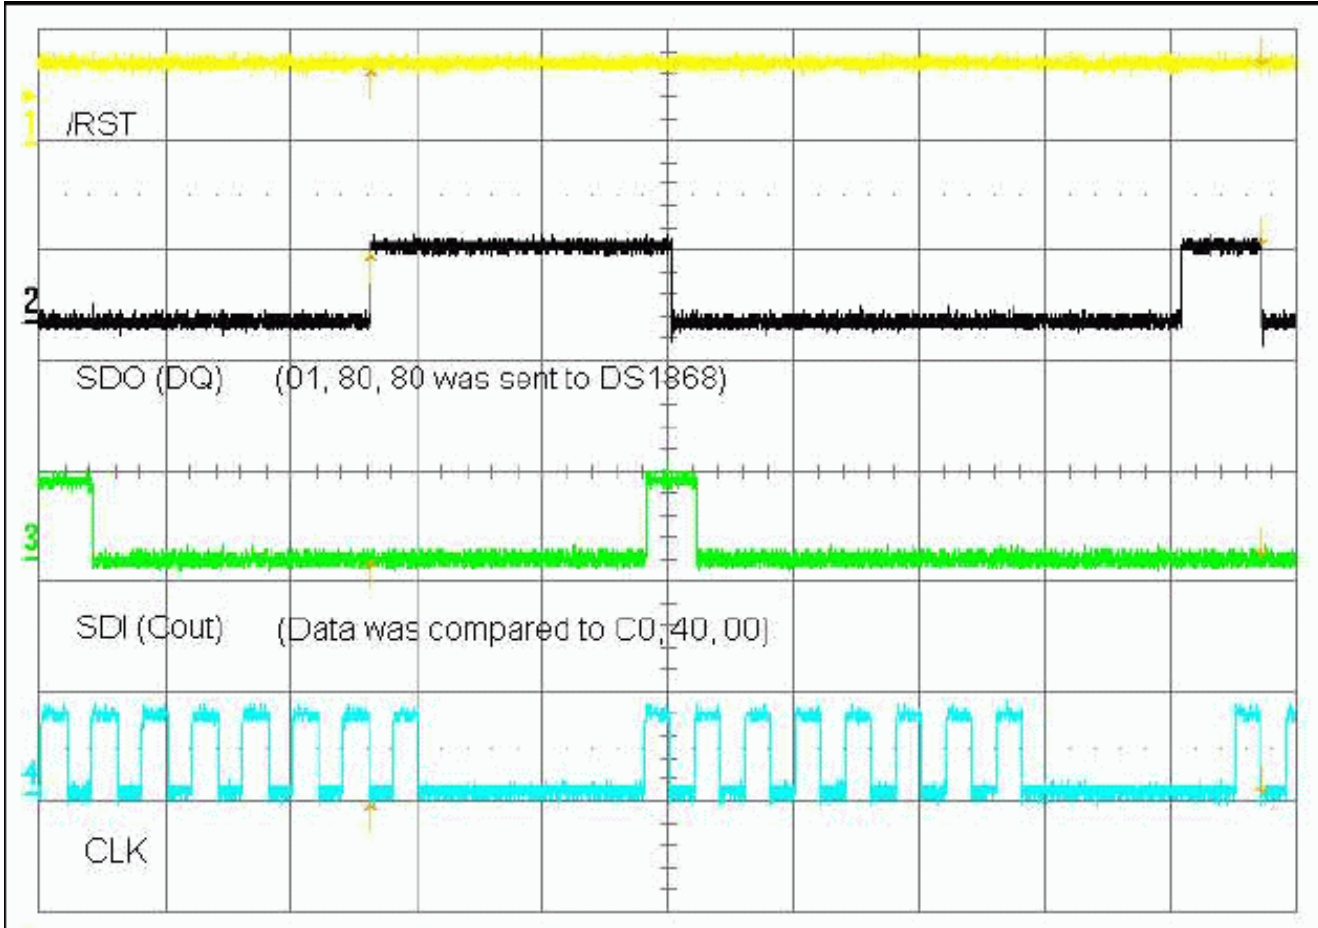

Figure 6. Data transmitted/received (detail).
**Figure 6** shows 01h, 80h, and 80h being sent to the DS1868. The data is then compared to C0h, 40h, and 00h. See Table 2 for more information on converting data.